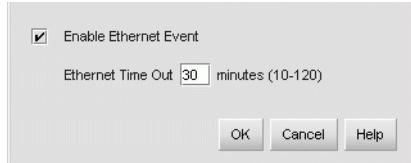

Figure 29 Configure Ethernet Events dialog box
2. At the HAFM or EWS main window, select the **Monitor > Ethernet Event**. The Configure Ethernet Events dialog box is displayed (Figure 29).